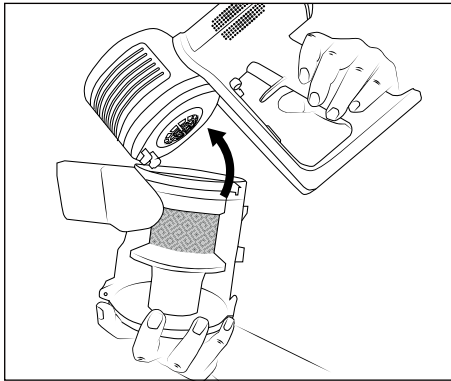

Fig. 25
- 10) Place the dust container 7 back in the appliance. Push it in the direction of the appliance until it audibly clicks into place (see Fig. 25).